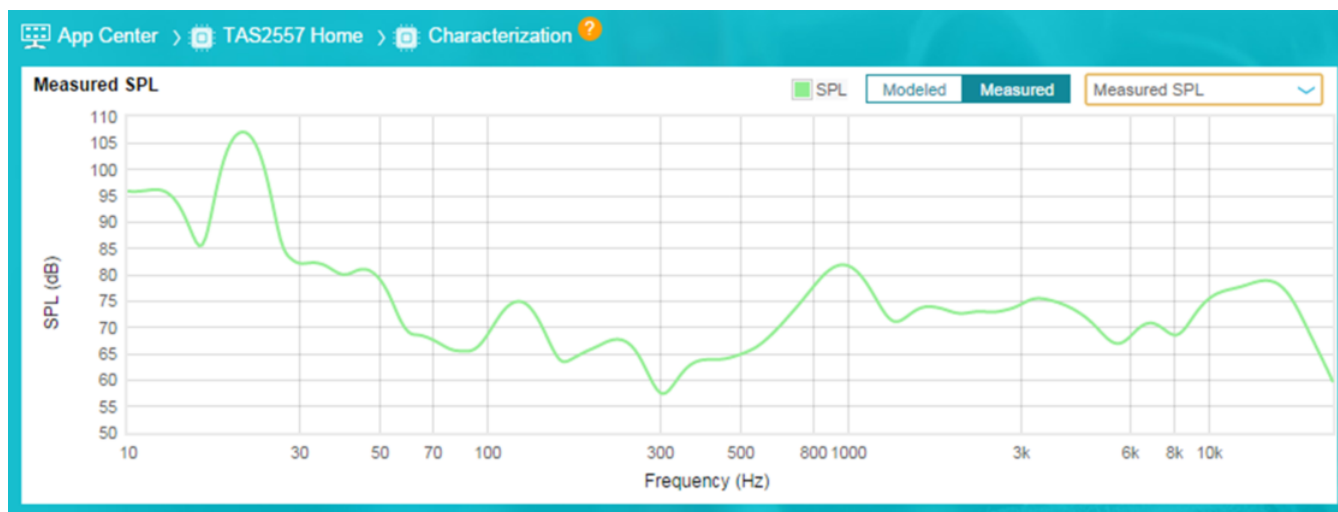

Figure 19. SPL Plot
- The SPL plot will look similar to the plot in Figure 19. Lower frequencies (< 100 Hz) in the SPL plot show room noise, but they will not be used by the Smart Amp. To ensure the speaker is in a sealed enclosure (closed box), check to see if there is a peak at the resonance frequency of the speakers.